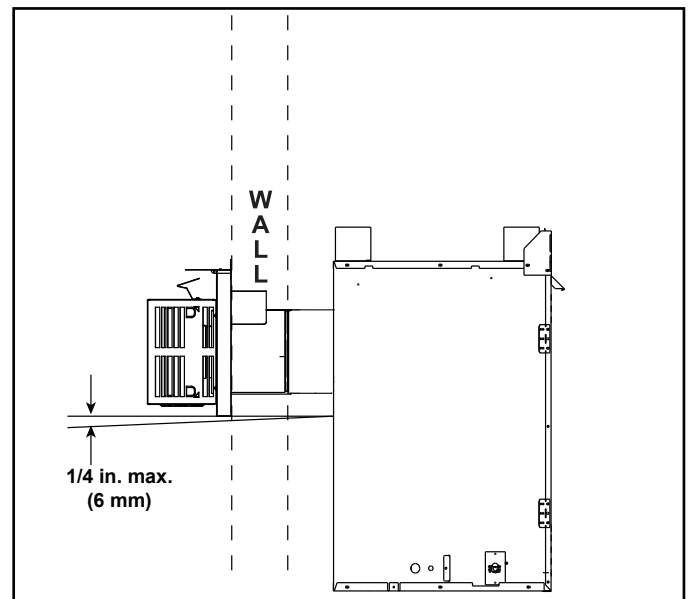

Figure 4.11 ←
- Horizontal termination cap should have a 1/4 inch downward slant to allow any moisture in cap to be released. See Figure 4.11.